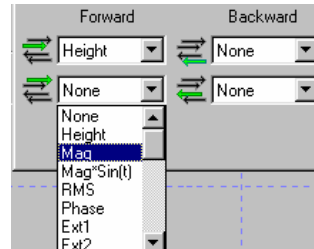

Fig. 4-50
- Select **MAG** in the “signals menu” that drops down (Fig. 4-50).